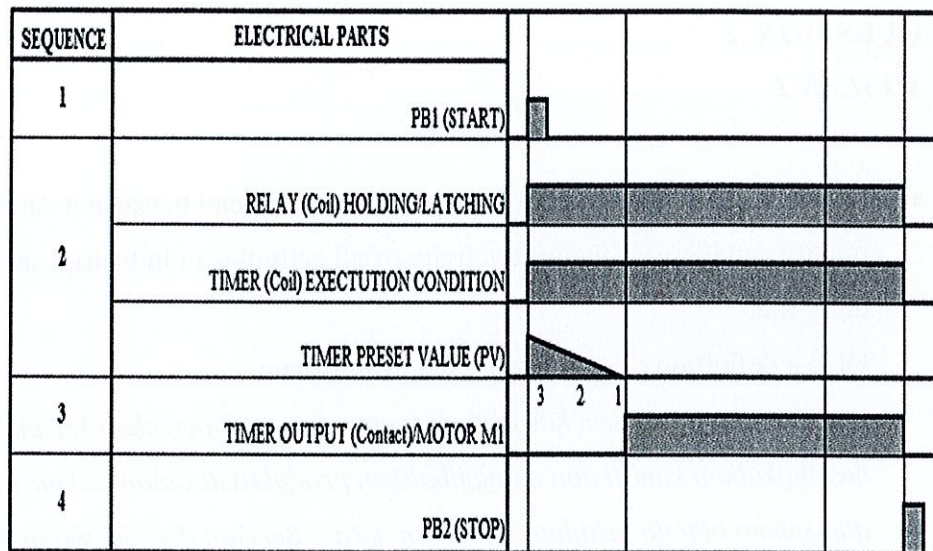

Figure A1c / Rajah A1c
- c) By referring to the sequence timing chart Figure A1c, draw the conventional control sequence (RLL/hardwired diagram) of this system.